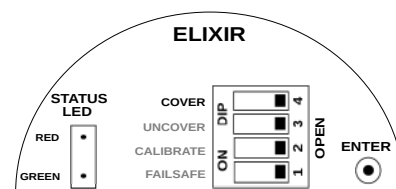

Figure 13: Saving Cover Delay
4. Delay is entered, but not saved. To save and test the Cover Delay, set the COVER switch back to OPEN position as shown in Figure 13. The STATUS LED will come back to its original position.